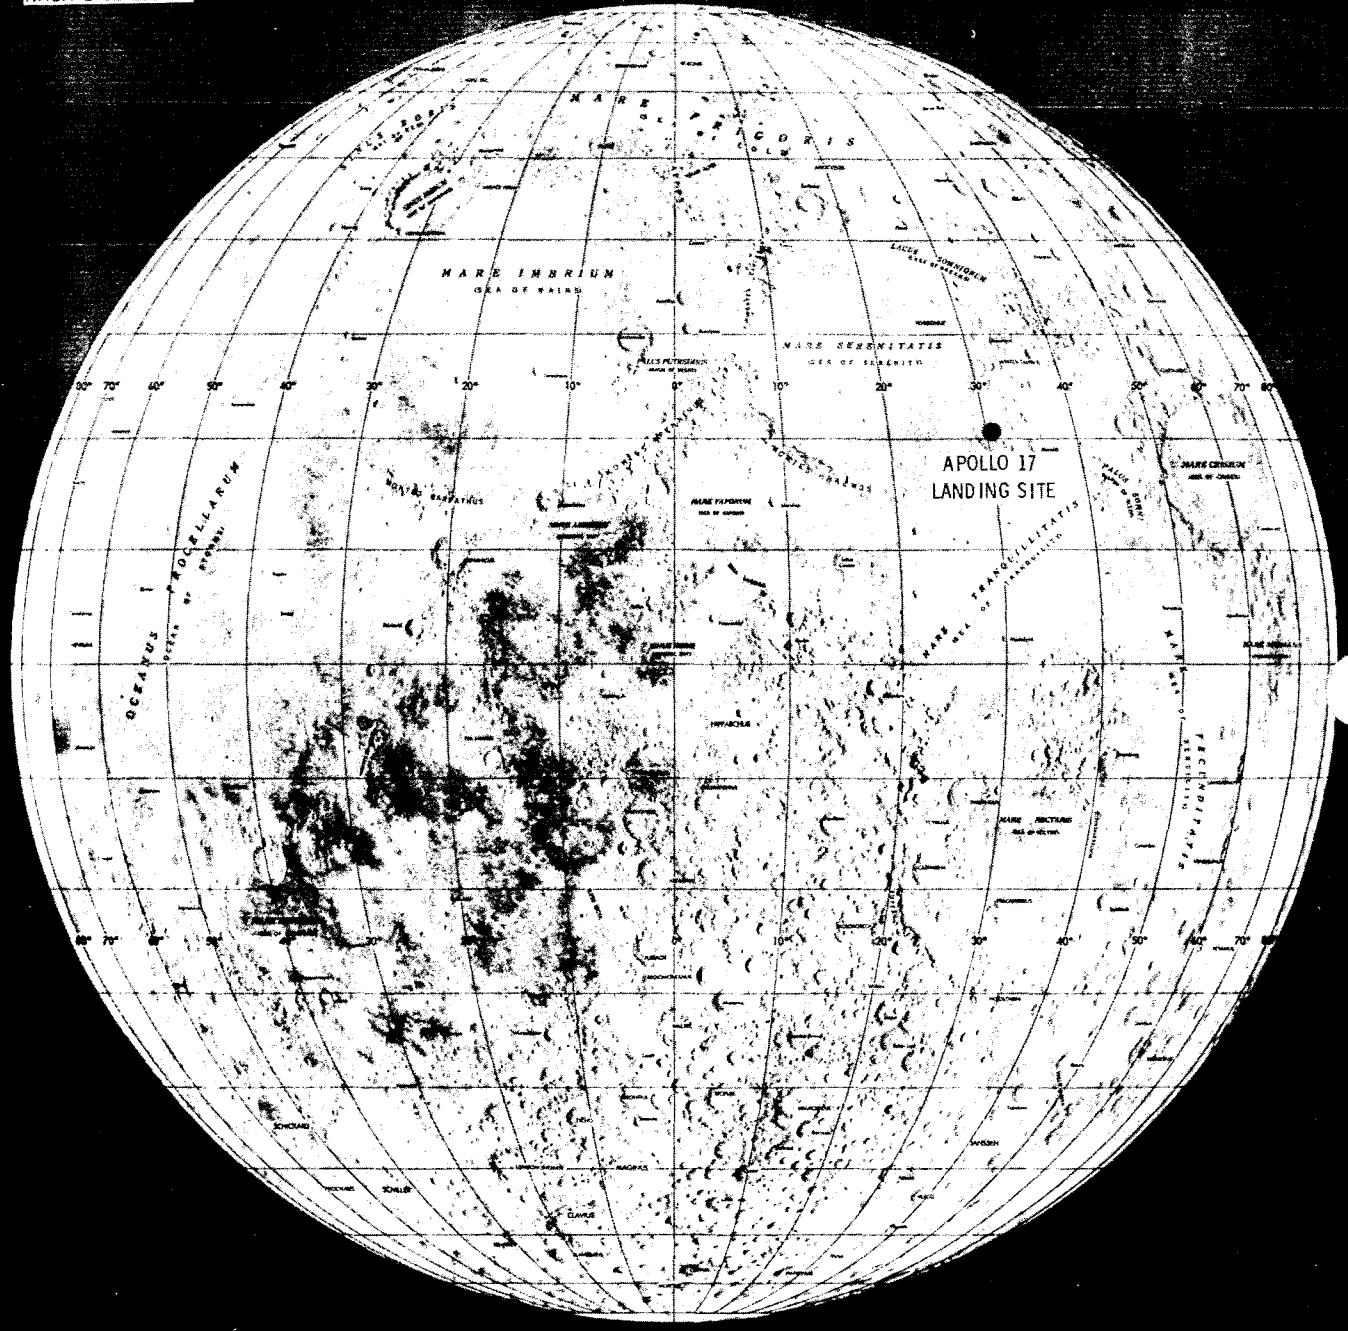
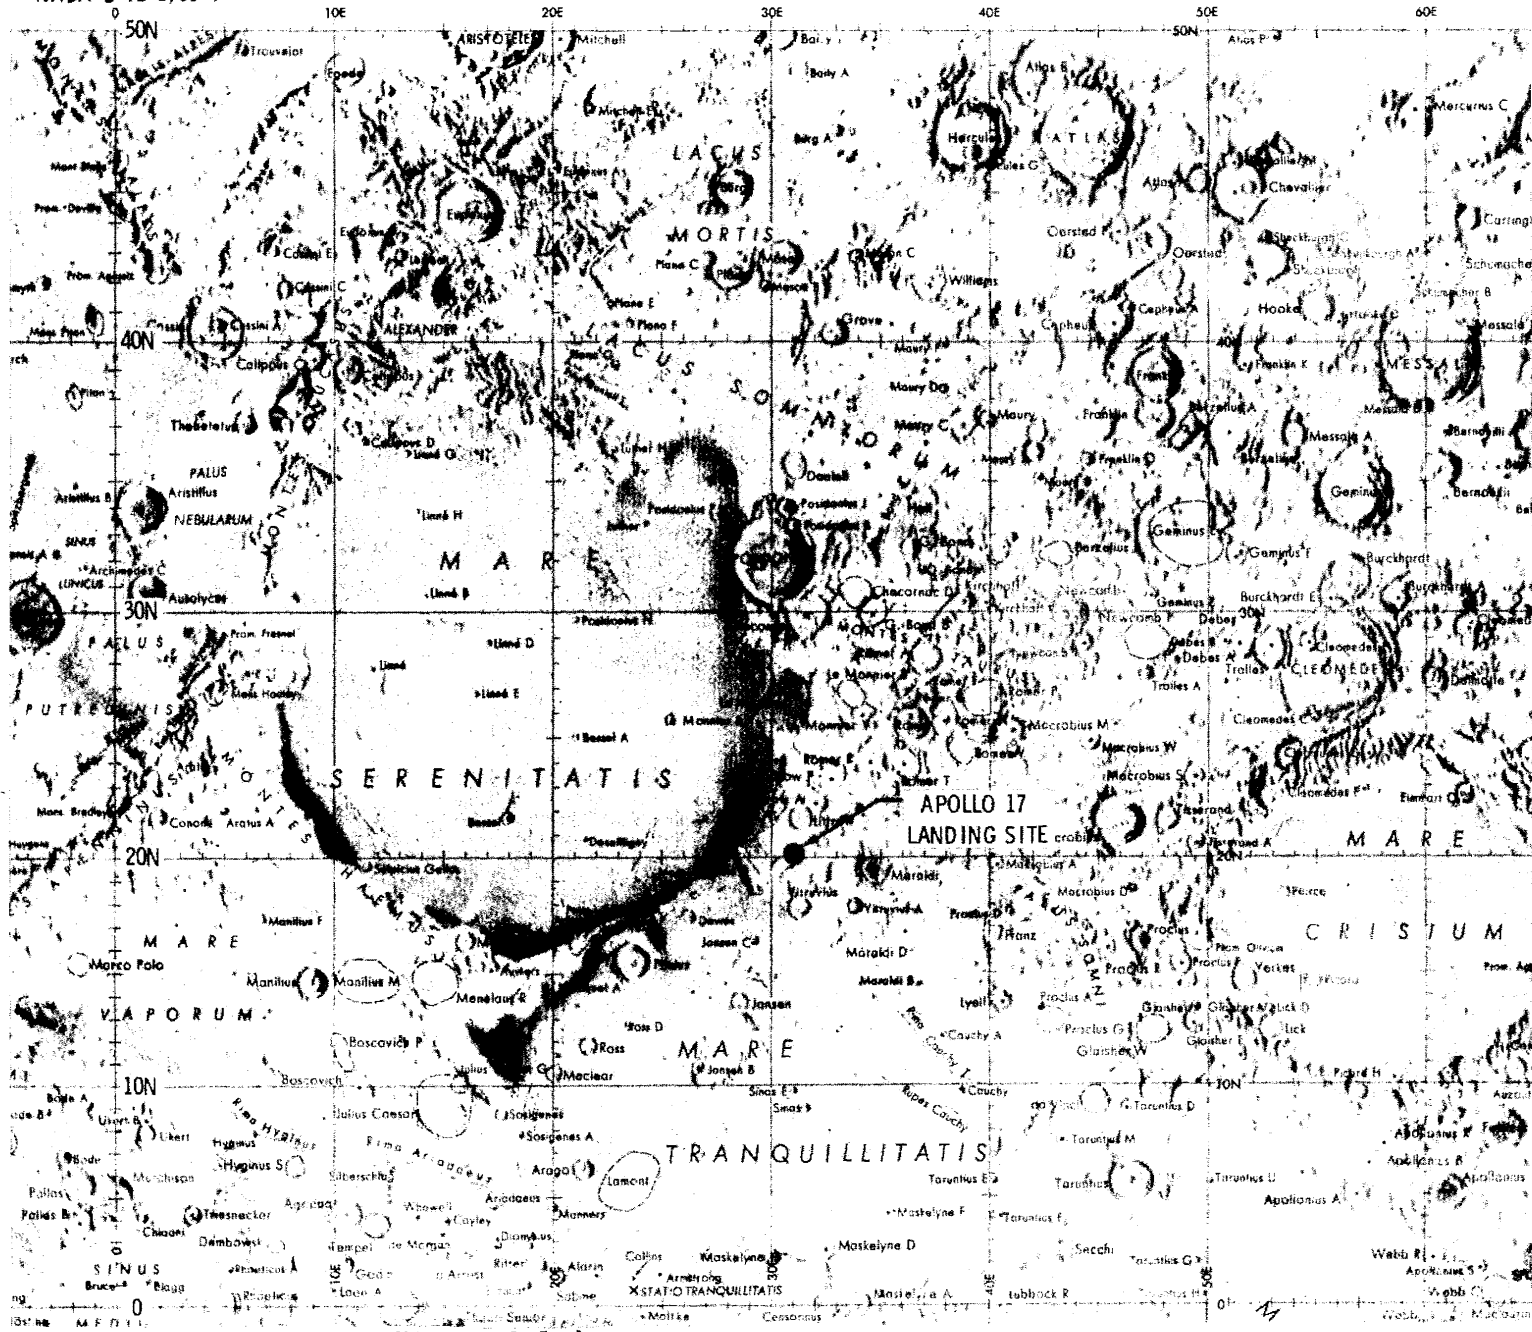

Figure 2.1-1 Whole moon view showing Apollo 17 landing site: 20° 09' 50" N, 30° 44' 58" E.
Figure 2.1-4 Map view of Apollo 17 landing region.
2.1.1 Geographic Setting - The Taurus-Littrow region is located in the northeast quadrant of the moon (Figure 2.1-1), in the mountainous region of the southeastern rim of the Serenitatis basin, approximately 750 km east of the Apollo 15 site (Figure 2.1-2). The site name is derived from the Taurus Mountains, which lie to the north and northeast of the site forming a mountainous plateau at the eastern edge of Serenitatis between Posidonius and Macrobius, and from Littrow, an old 30 km highland crater which lies approximately 35 km north of the landing site. This area is well illustrated in Figure 2.1-3, an Apollo 15 metric camera oblique, a view of the Taurus-Littrow area from south of the landing site. Posidonius is the large crater in the upper left near the horizon, Mare Serenitatis is the dark region along the left margin, and the crater Littrow lies in the left-center, just north of the landing site. Macrobius is off the picture to the west and the relatively fresh large crater in the upper right is Romer. Figure 2.1-4 shows the map location of this region.